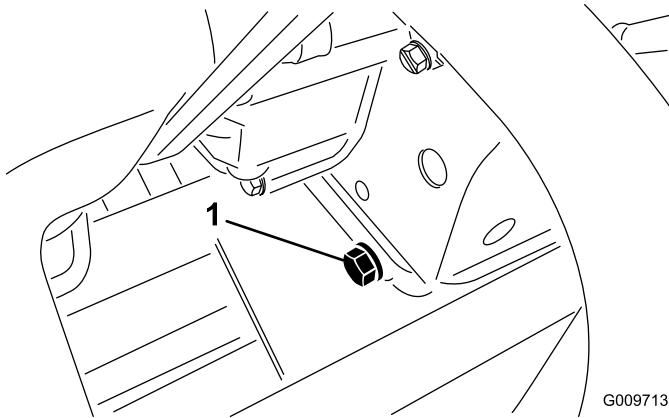

Figure 52
1. Remove the rear drain plug (Figure 52) and let the oil flow into a drain pan. When the oil stops, install the drain plug.